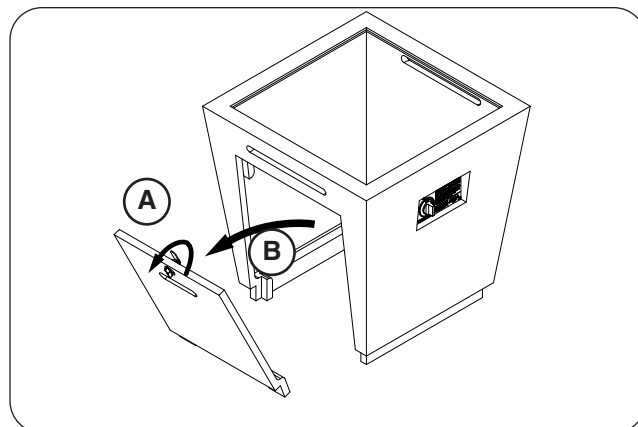

Fig. 30-2 Remove door
2. Remove the storage door by first turning the door handle counter-clockwise, then carefully pulling the door outward (see Fig. 30-2). Store in a safe location.